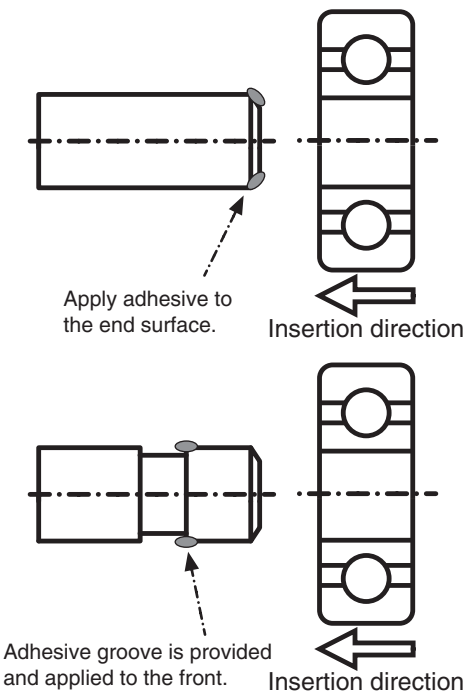

Figure 19-4 Applying adhesive (example)
- Preventing adhesive penetration (Figure 19-4)